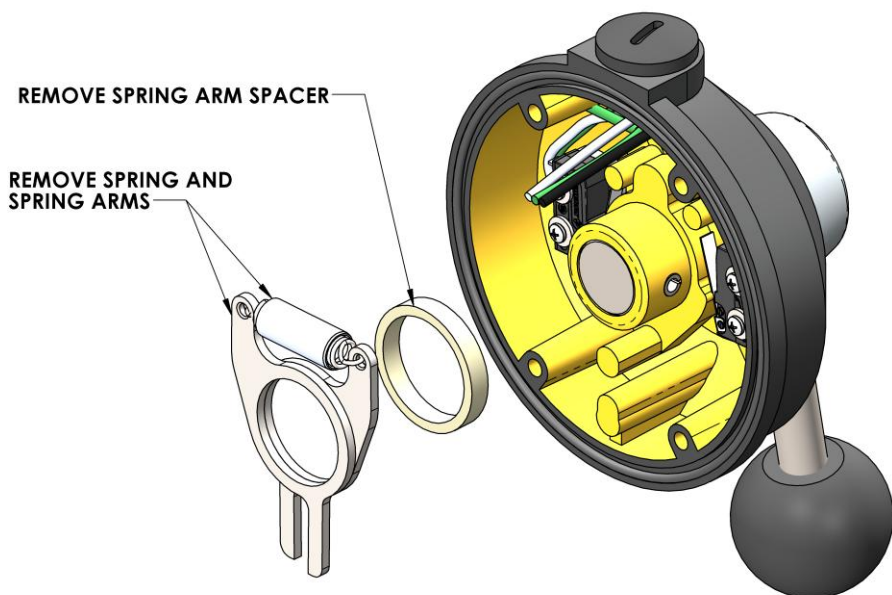

Figure 18: Removal of the spring arms and spring
5. Remove the two spring arms and spring together off of the cam hub as shown in Figure 18. The spring arms will need to be pulled together or else they will bind on the cam hub.